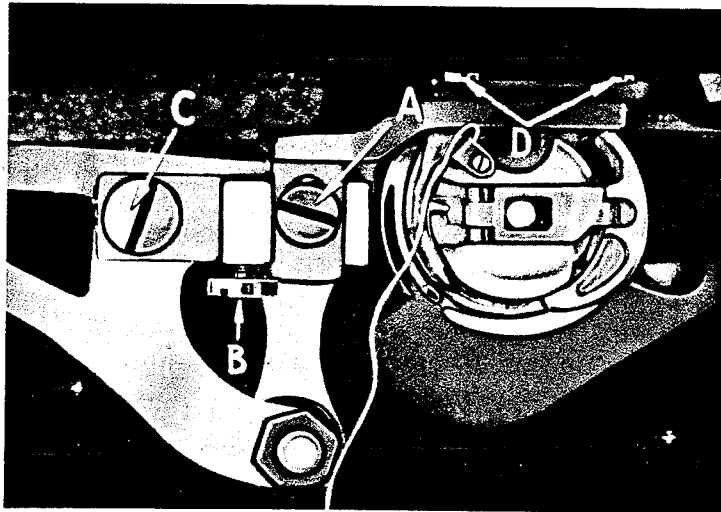

Fig. 14
The feed dog holder attaching screw (A, Fig. 14) should be loosened slightly, and regulating screw (B)